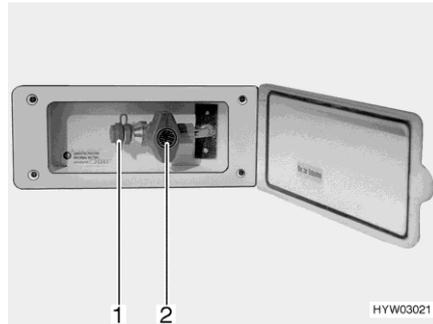

Fig. 117 External gas connection
- Connect the external gas device to the connection point (Fig. 117,1).
- Open the gas isolator tap (Fig. 117,2).